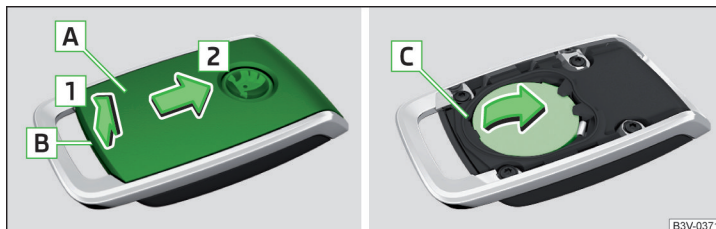

Fig. 341 Open the cover/remove the battery
- Use a thin screwdriver to remove the cover **A** in the area **B** » Fig. 341.